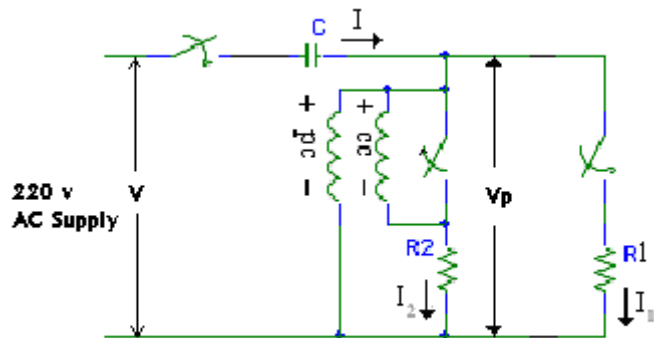

Figure 2:
5. Connect the circuit in Fig. 2 without the wattmeter. Measure V , I , I_1 , I_2 and V_p .
6. Connect the wattmeter to measure the total power (W) into the circuit.